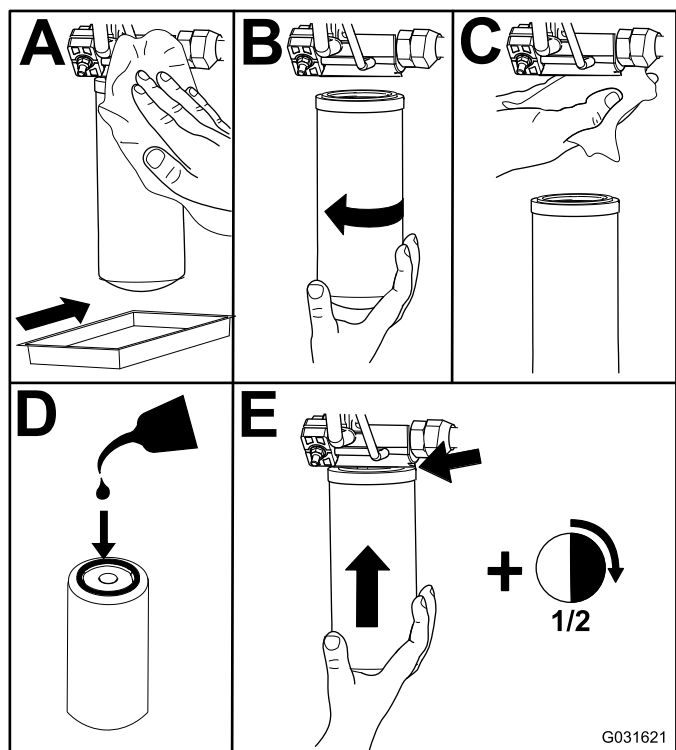

Figure 70
2. Replace the charge hydraulic filter at the hydraulic lift compartment as shown in Figure 70.
4. Replace the return filter at the right side of the machine (Figure 70).